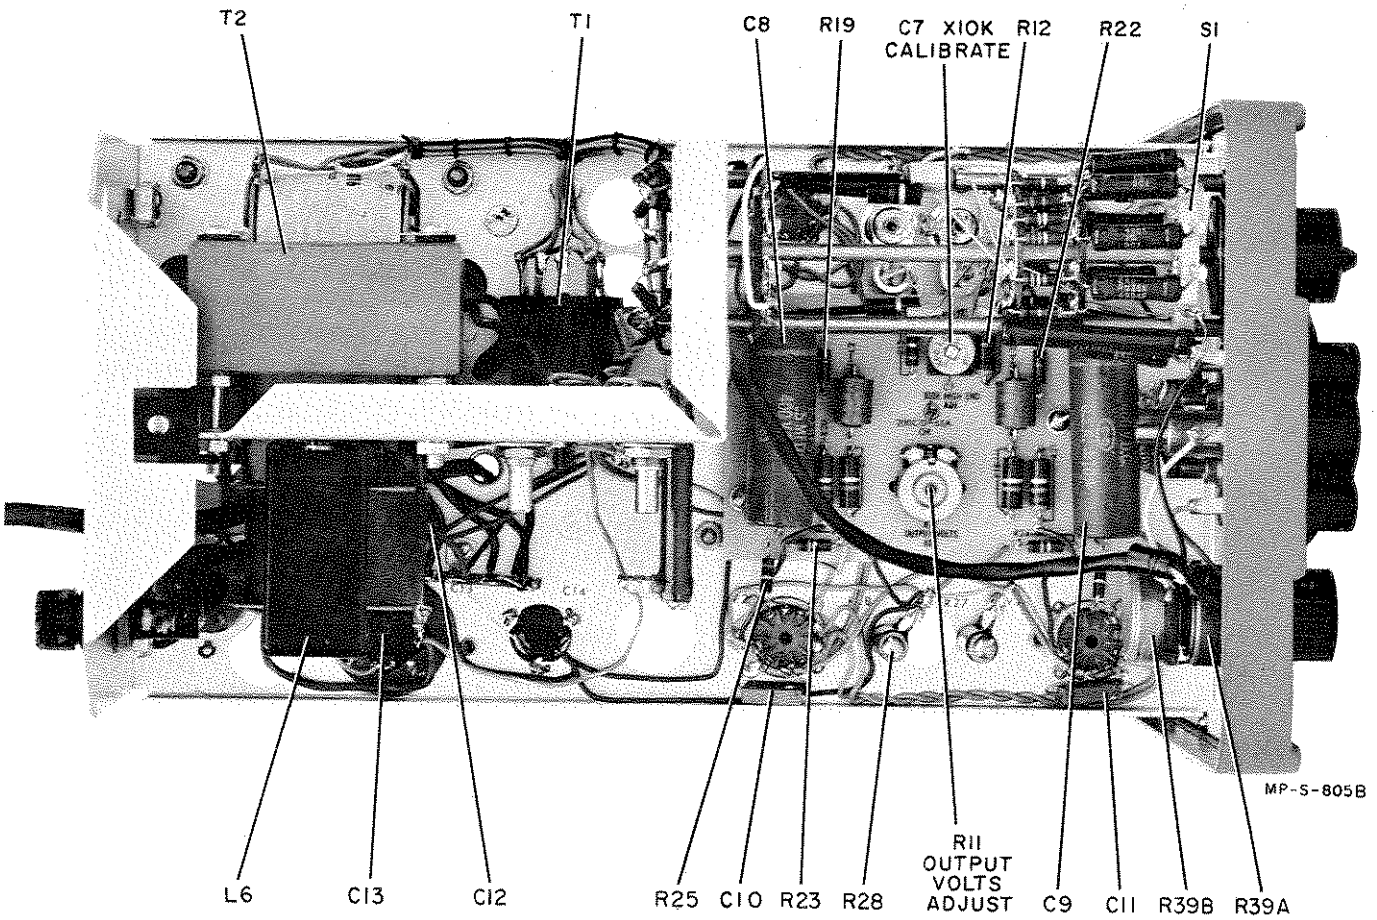

Figure 5-7. Bottom View Model 200CD
- c. Turn Model 200CD AMPLITUDE fully clockwise, and adjust R11 for 11.5 volts on the ac voltmeter (see figure 5-7).